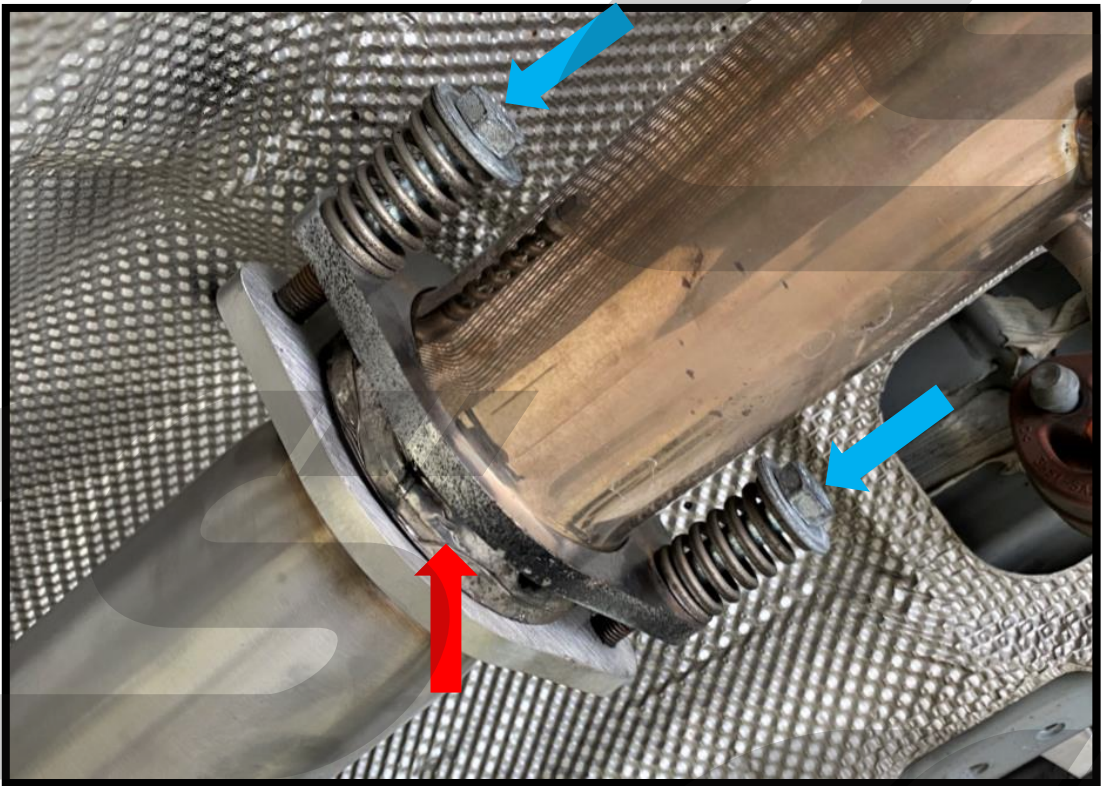

Figure 4f
- g) Install the supplied donut gasket onto the end of the CS 3" downpipe. Shown completed with **red arrow** in **Figure 4f**.
- h) Using the supplied hardware and OEM springs, attach the CS 3" downpipe to the midpipe of your exhaust. Tighten using a 17mm socket and ratchet until there is a ~1mm gap between the coils of the spring. Shown in progress with **blue arrows** in **Figure 4f**.